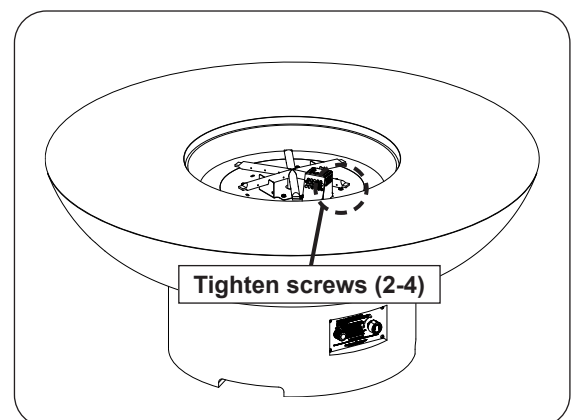

Fig. 41-3 Secure burner
2. Use a $\frac{5}{16}$ " nut driver to fasten the burner to the base (see Fig. 41-3).